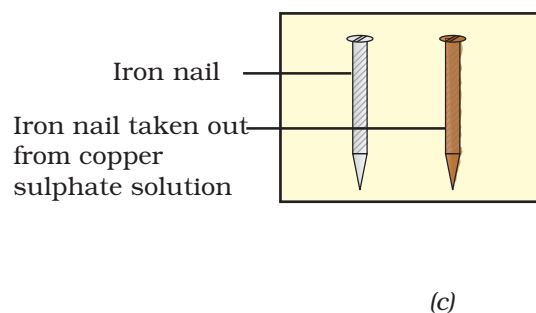

Fig. 1.1 : (a) Iron nail dipped in copper sulphate solution; and (b) Iron nails and copper sulphate solutions are compared
4. Tie one iron nail with a thread and immerse it carefully in copper sulphate solution in test tube B through a bored cork [as shown in the Fig 1.1(a)] for about 15 minutes [Fig. 1.1(a)]. Keep the another iron nail separately for comparison afterwards.
6. Compare the intensity of blue colour of copper sulphate solution before and after the experiment in tubes A and B, and also compare the colour of iron nail dipped in copper sulphate solution with the one kept separately [Fig. 1.1(b) and (c)]. Record your observations.